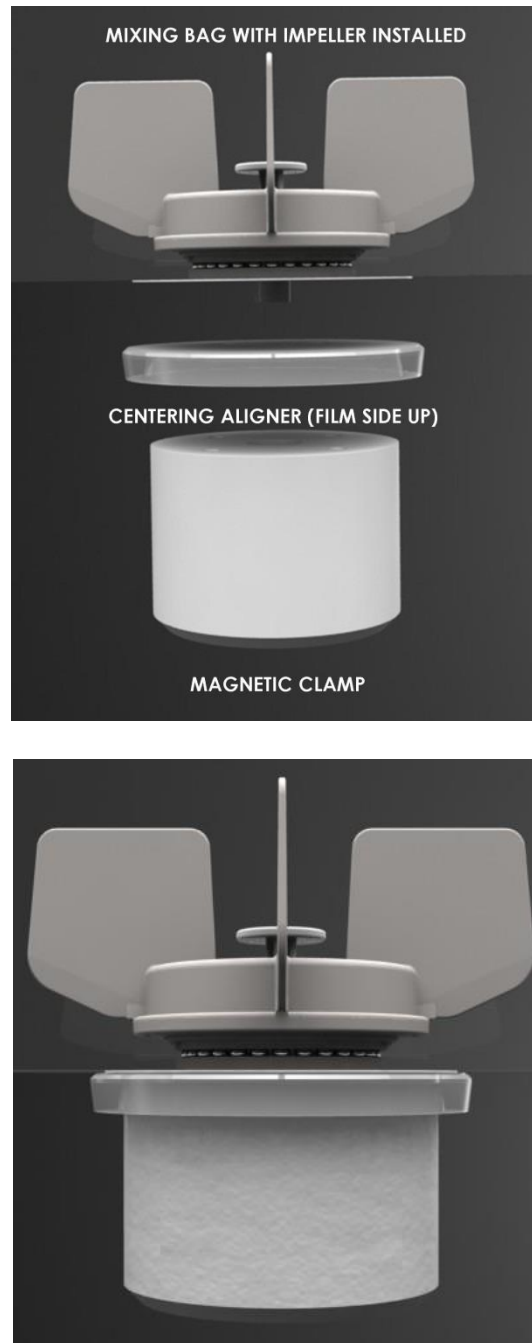

Figure 5: Assembly of dry bag with interface
- 8.2 Assemble the centering aligner and magnetic clamp as shown in Figure 5.